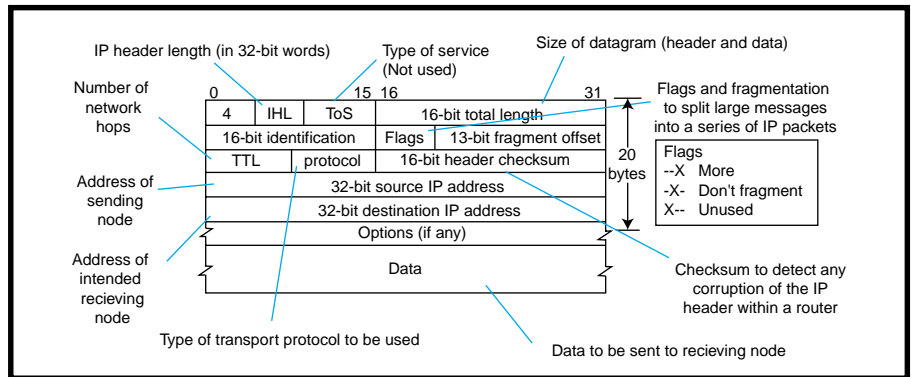

Figure 2—Sent within the data field of an Ethernet packet, the IP packet allows the routing of data to an IP stack running on a local network computer.
This layer allows you to send packets from one computer to another using various protocols. One common protocol is Internet Protocol (IP), denoted by "0x0800" in the type field of the MAC header (see Table 2). Figure 2 shows the IP packet structure. [3]